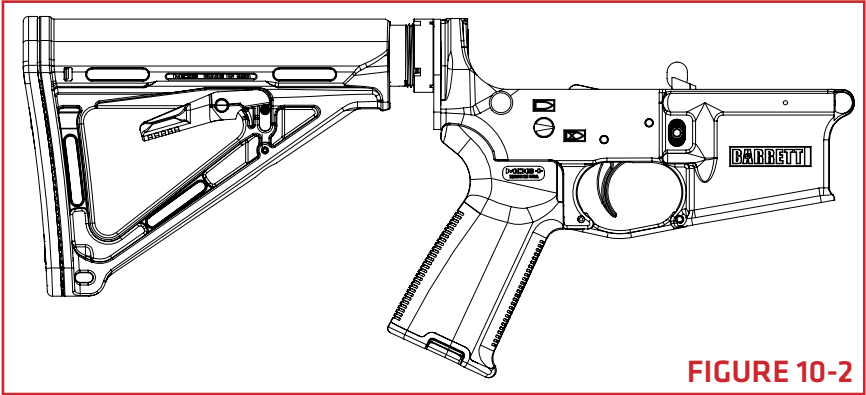

FIGURE 10-2
2. The lower assembly (**FIGURE 10-2**).